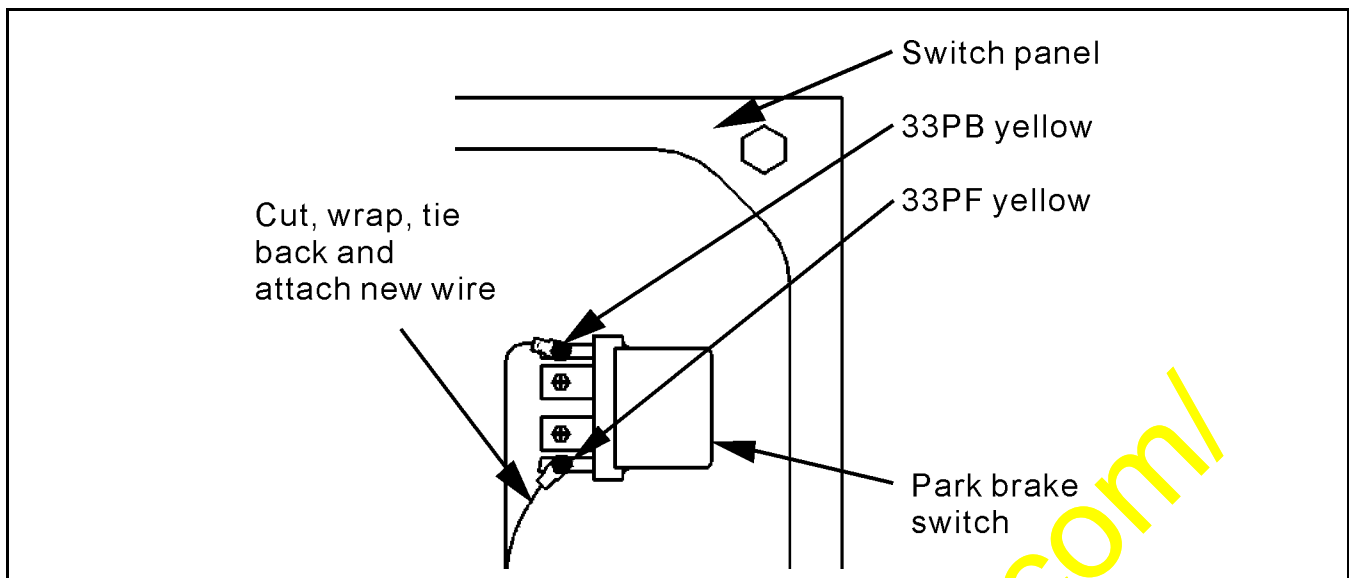

Figure 3. Park brake switch connections
11. Clip the hot side wire at the parking brake switch (33PF yellow). Cover the exposed conductor end with heat-shrink tubing. Figure 3 shows orientation of wire on this switch.